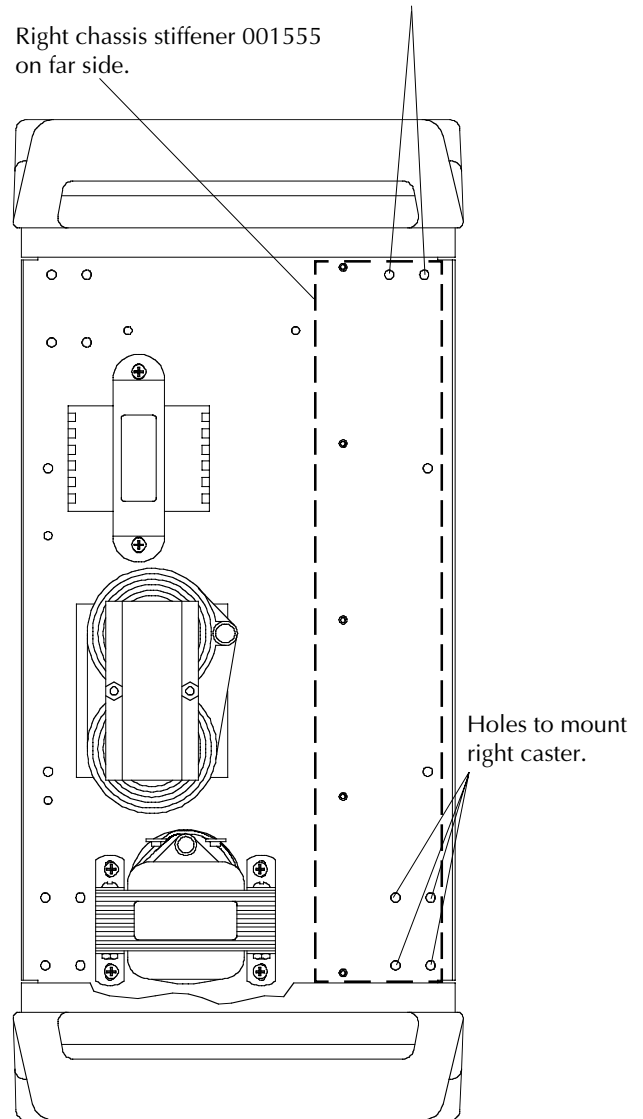

Figure 1 Power Supply on Front Handles - Inside Floor View
- Push 2 of the screws (075472) through the top 2 holes of the chassis stiffener from the outside (bottom) of the power supply - see Fig. 1. Be certain that the screws also go through the holes of the chassis floor.